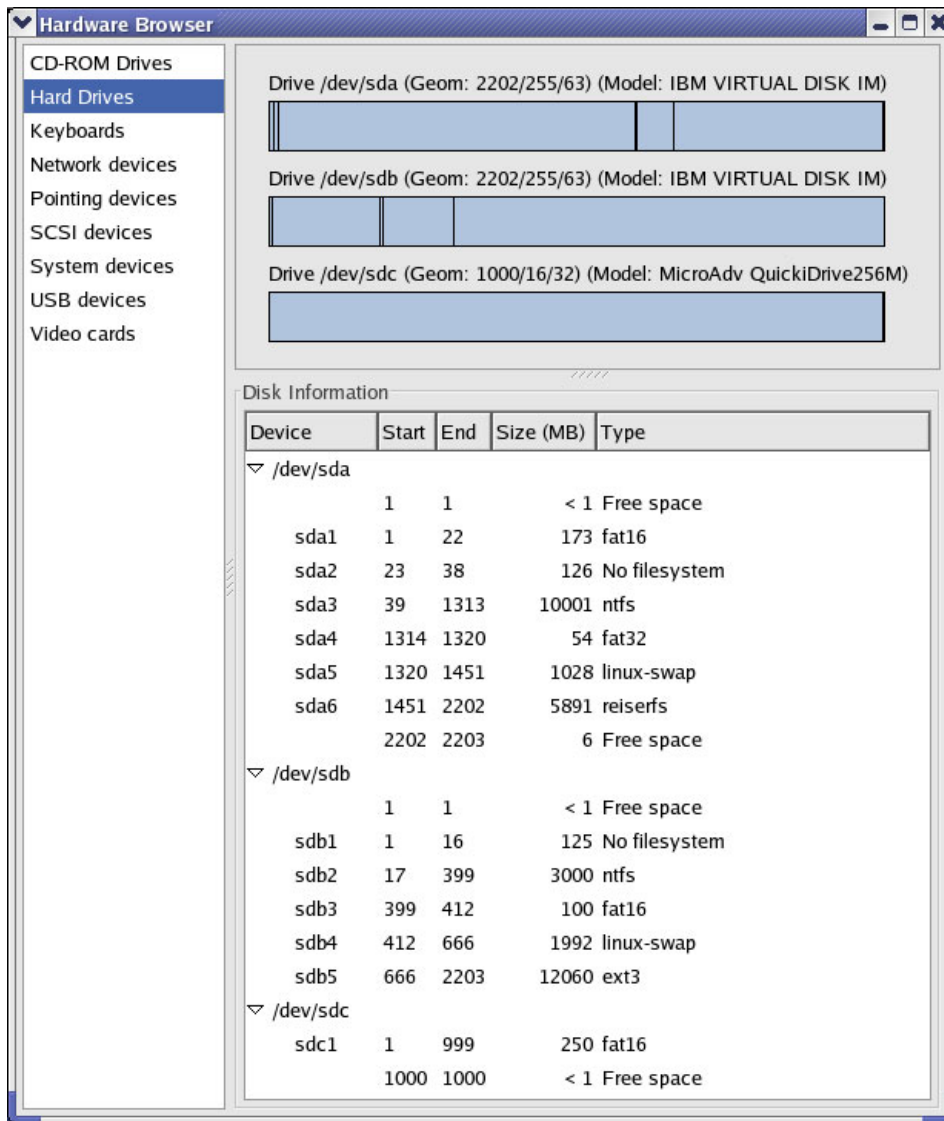

Figure 4-51 Partitions in Hardware Browser, Red Hat EL AS 3.0
- See Figure 4-51 on page 170.